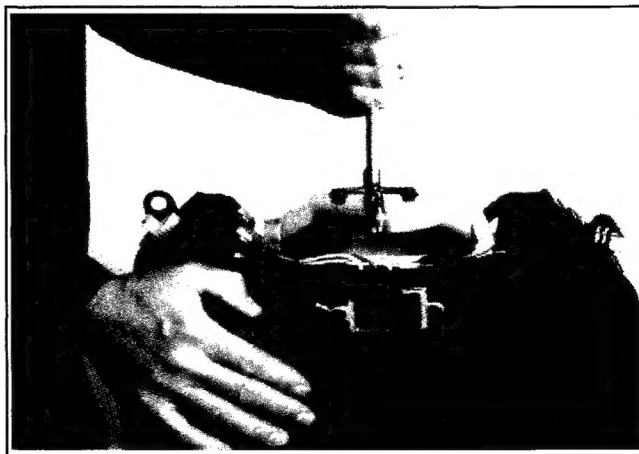

Figure 11-56. Install Air Cleaner Base Plate (Std. Shown).
1. Install a new base plate gasket and base plate. Secure to the carburetor with three hex. flange screws tightened to **9.9 N·m (88 in. lbs.)** torque. See Figure 11-56. Install new seals on base plate studs (one long seal on top tank version).